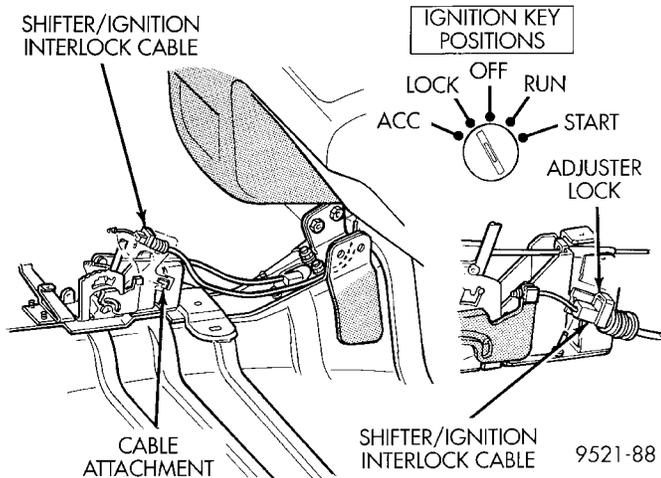

**Fig. 21 Shift Indicator Bezel**
(4) Remove the screws retaining the gearshift indicator bezel and remove bezel and indicator lamp (Fig. 21).